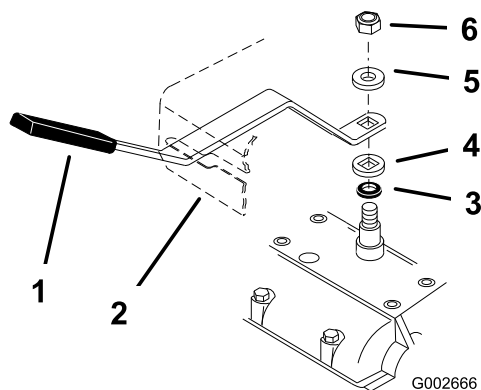

Figure 6
1. Shift lever to second gear and check alignment of lever in slot of shift lever plate. The clearance between top and bottom of the shift lever should be equal (Figure 6).
- If clearance is not correct, remove lever and bend it slightly to adjust (Figure 6).
- Shift lever to neutral and check alignment of lever in slot of shift lever plate. The clearance on the sides of shift lever should be equal (Figure 6).